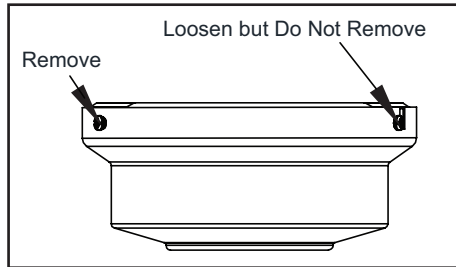

Figure 9
2. Remove the mounting bracket from the canopy by loosening the four screws on the top of the canopy. Remove the two non-slotted screws and loosen the slotted screws. This will enable you to remove the mounting bracket. (Figure 9)